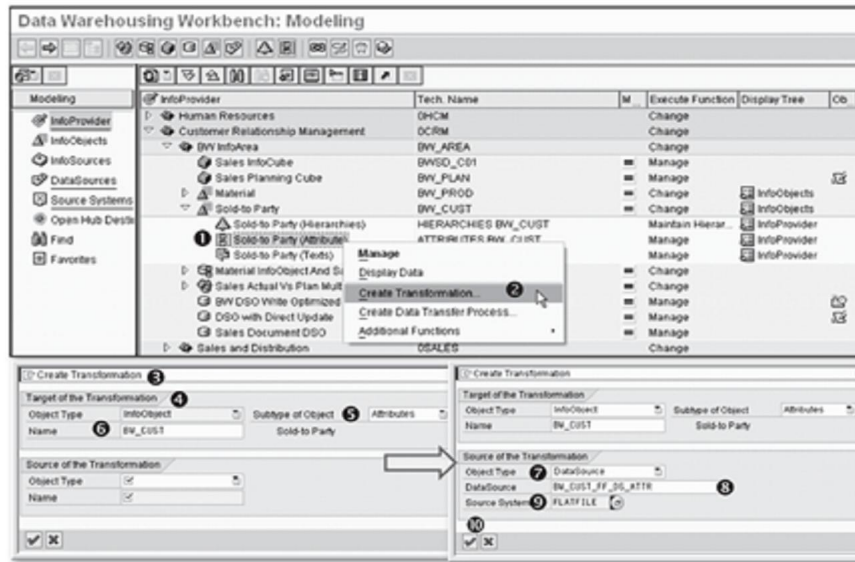

Figure 7.21 Creating a Transformation
Now that the InfoObject BW_CUST is available in the InfoProvider tree, a transformation can be created. In our example, we want to create a transformation between the InfoObject BW_CUST and DataSource BW_CUST_FF_DS_ATTR. Select Sold-To Party (Attribute), as shown in ❶ of Figure 7.21. Open the context menu, and select Create Transformation (❷), which results in ❸ of Figure 7.21. Because we've started the creation of the transformation from the InfoObject BW_CUST (attribute), the target of the transformation is set to Object Type = InfoObject (❹), Subtype of Object = Attribute (❺), and Name = BW_CUST (❻).
Next, supply the necessary information in the Source of the Transformation area (❼, ❽, and ❾ of Figure 7.21). Source can be any of the following: